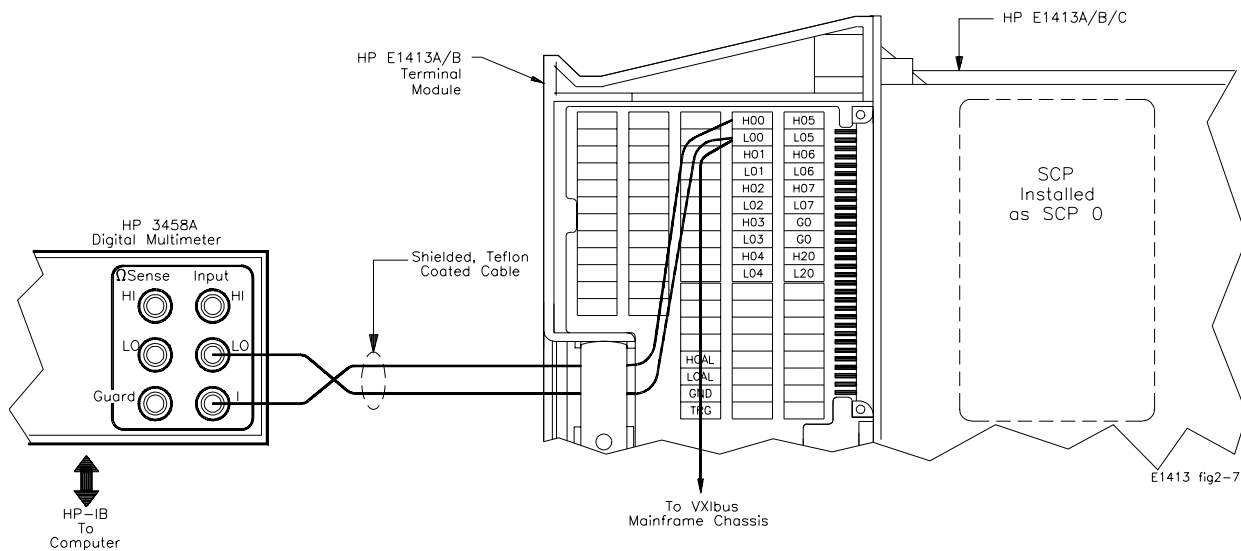

Figure 2-7. Typical Wiring Configurations
- [a] Connect wiring to terminal block and DMM (see Figure 2-7)